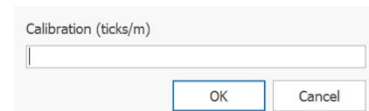

Figure 18 -Manual wheel calibration
- Manual calibration – allows the user to directly assign a calibration value (i.e., number of ticks the odometer gives for each travelled unit of distance), Figure 18.